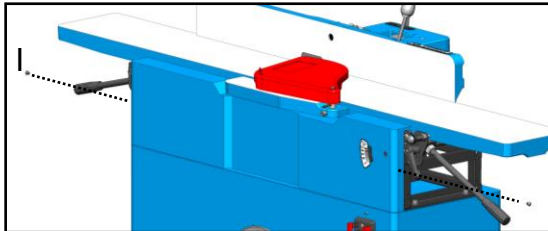

Fig. 13
2. Loosen 2 screws (I, Fig. 13) on the front cover.